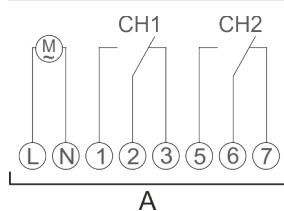

Fig. 5: Circuit diagram
3. Connect the channel extension as per the circuit diagram (Fig. 5).